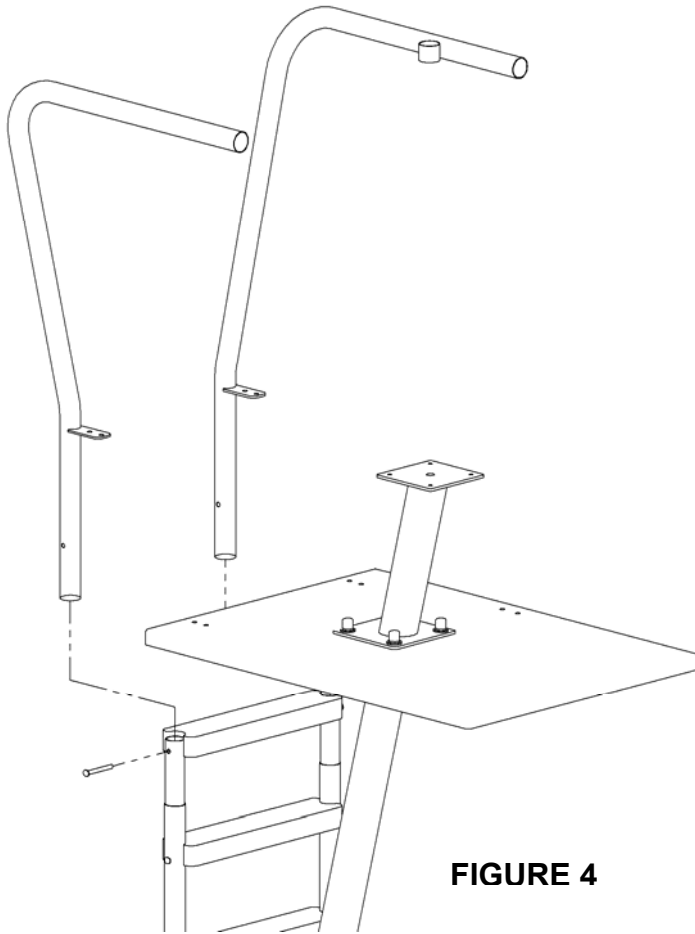

FIGURE 4
4. Attach the left and right side rails to the lower step assembly using (1) 20" white step, (2) $\frac{3}{8}$ "x3- $\frac{1}{4}$ " Gusset head bolts, (2) $\frac{3}{8}$ " flat washers, and (2) $\frac{3}{8}$ " hex nuts. **FIGURE 4**